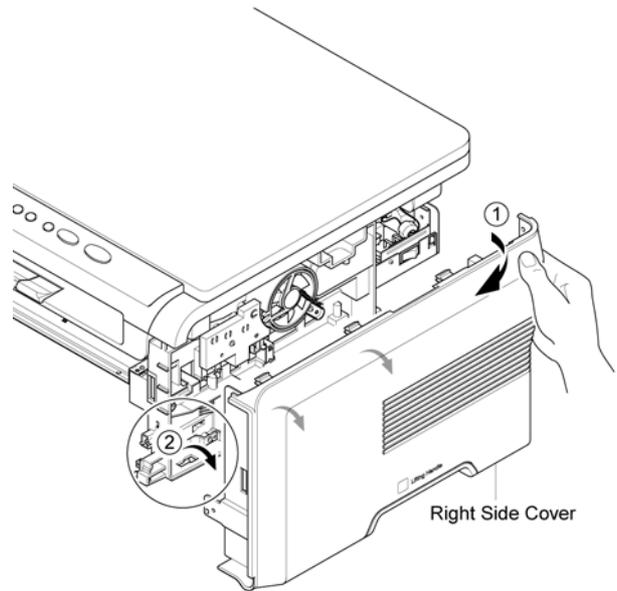

Figure 2
4. Gently flex the Right Side Cover in the direction of the arrows, Figure 2.